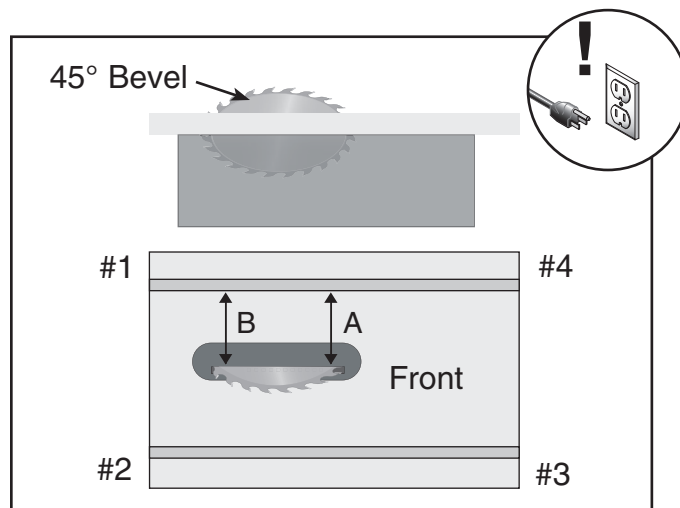

Figure 66. 45° blade parallelism measurement.
2. Using **Figure 66**, shim the trunnion assembly according to the difference measured when the blade was in the 45° position.